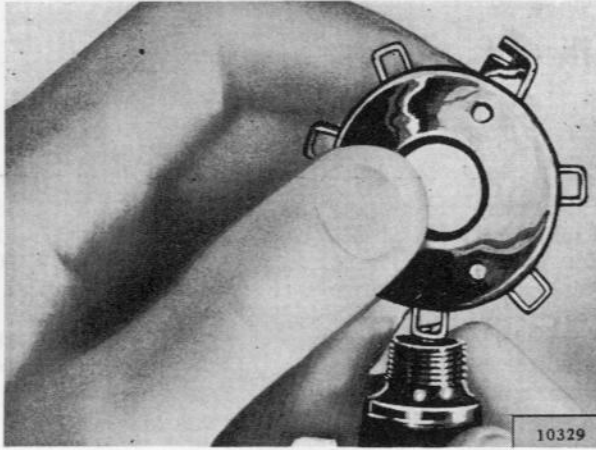

FIG. 60—SETTING SPARK PLUG GAP
**f.** Measure the electrode gap of each new or existing plug with a wire gauge as shown in Fig. 60. Adjust each electrode gap to the specified gap by bending the outer electrode mounted in the plug shell.